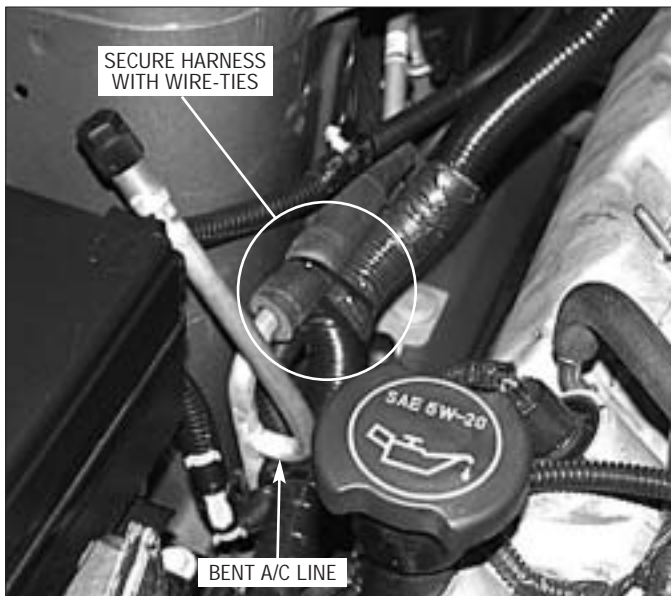

Fig. 8D-b
3. Remove the small clip retaining the small wiring harness to the shock tower. (See Fig. 8D-b.)